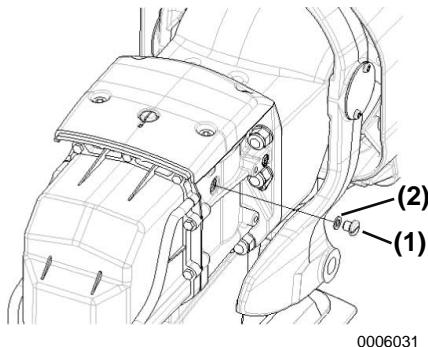

Figure 14
7. Remove the oil vent plug and gasket (**Figure 14, (1)**). Allow the oil to drain completely.